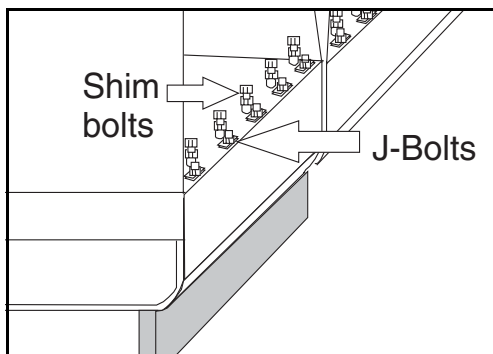

Figure 3 - 16 J-Bolt Location
- 2) Check the screed bottom along the length of the straight edge for flatness. If the screed bottom is not flat, loosen the J-bolt adjacent to the shim bolt and tighten the shim bolt as needed to flatten the trailing edge. (Figure 3 - 16). Retighten the J-bolt.